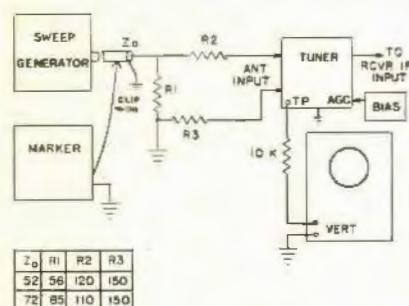

Fig. 4—Connections for visual alignment of the tuner.
5. Matching pad, shown in Fig. 4.
- 1—Connect equipment as shown in Fig. 4. Turn on receiver and equipment and allow a five minute warm-up period.
- 2—Apply a negative 2.5 volts to tuner agc input (2).
- 5—Remove bottom cover assembly (10).